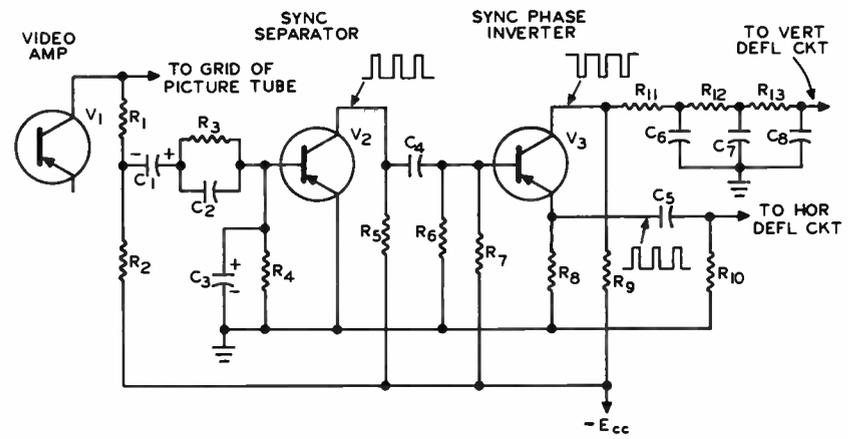

FIGURE 4
In the circuit of Figure 4, resistors  $R_6$  and  $R_7$  form (A) a base bias voltage divider circuit for the  $V_3$  stage. (B) a dual time constant network. (C) a differentiating network. (D) an integrating network.